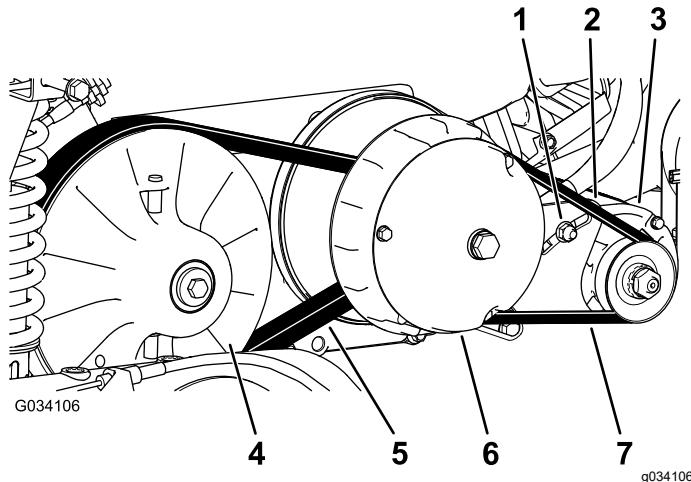

Figure 63
6. Rotate and inspect the belt (Figure 63) for signs of excessive wear or damage.
3. Rotate and route the belt over the secondary clutch (Figure 63).
4. Remove the belt from the primary clutch (Figure 63).
5. Align the new belt over the primary clutch (Figure 63).
6. Rotate and route the belt over the secondary clutch (Figure 63).
2. Loosen the pivot nut for the starter generator (Figure 63).
4. Apply downward pressure to the pry bar to rotate the starter down in the slot until the belt tension only allows 6 mm (1/4 inch) belt deflection with 44 N·m (10 ft-lb) of force (Figure 63).
5. Tighten the pivot nut hand tight, and remove the pry bar (Figure 63).